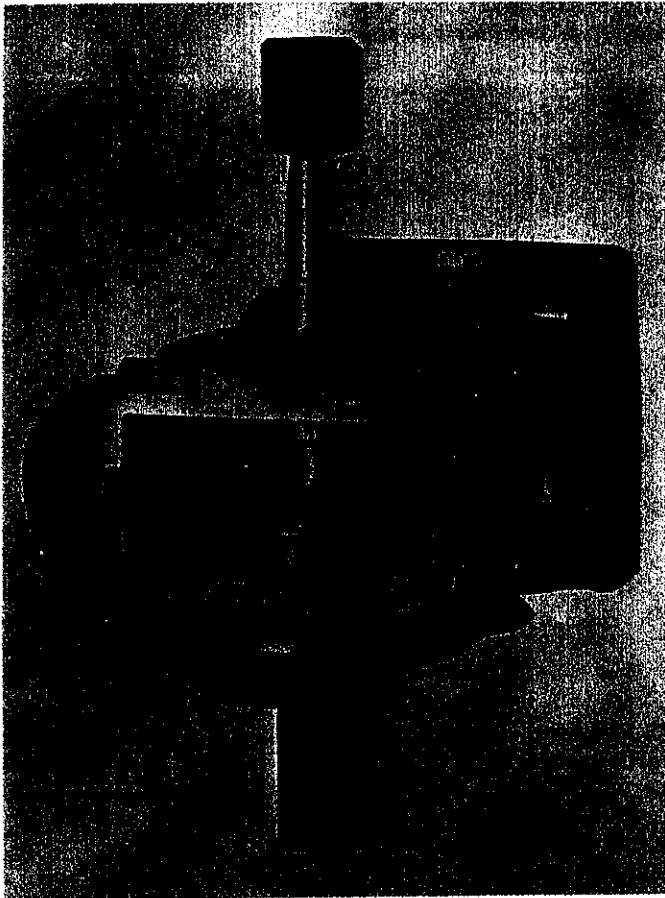

FIGURE 12. INSTALLING CRANKSHAFT
22. Insert the tapered shoulder of T-2916 seal sleeve into the crankshaft as shown in Fig. 12. Install a knock-off nut to the magneto end of the shaft as shown in Fig. 12 and insert shaft in cylinder.